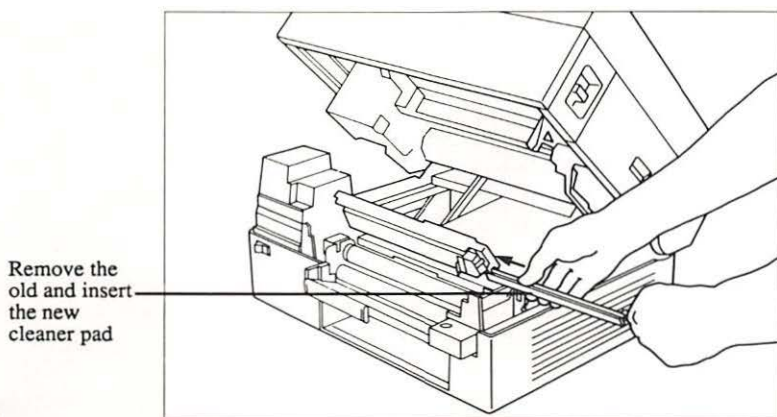

FIGURE 5-11
3. Raise the top of the fuser assembly and replace the fuser roller cleaner felt with a new one (Figure 5-11). Lower the top of the fuser assembly.